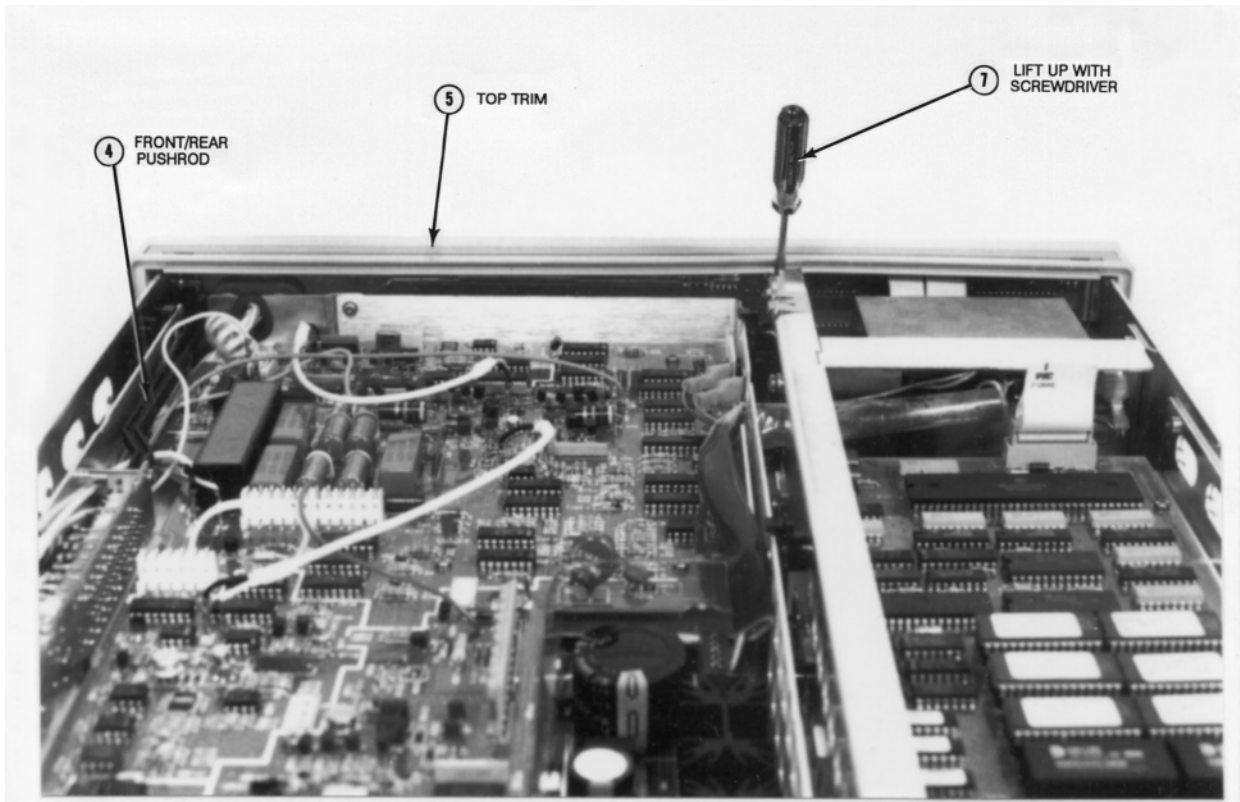

Figure 22. Top Trim and Front/rear Pushrod Locations, and Unlock Panel
5. Refer to Figure 22. Do the following:
8. Refer to Figure 22. With a small flat bladed screwdriver, lift up the Front Panel assembly and unlock it from the chassis. Carefully move some more of the Front Panel assembly's left side (as seen from the front of the instrument) until free from the chassis. Then move the rest of the Front Panel assembly out and away from the instrument as far as it can go. Note that the assembly can only be moved a short distance, since the front terminals are still internally connected to the instrument.
11. Install the top trim into the channel on top of the Front Panel assembly. Lock it in place (see Figure 22).
13. Refer to Figure 22. Guide the Front/Rear Terminals switch pushrod through the rear of the front panel's access hole. Then align the pushrod with the Front/Rear Terminals switch shaft and push it all the way onto the shaft.